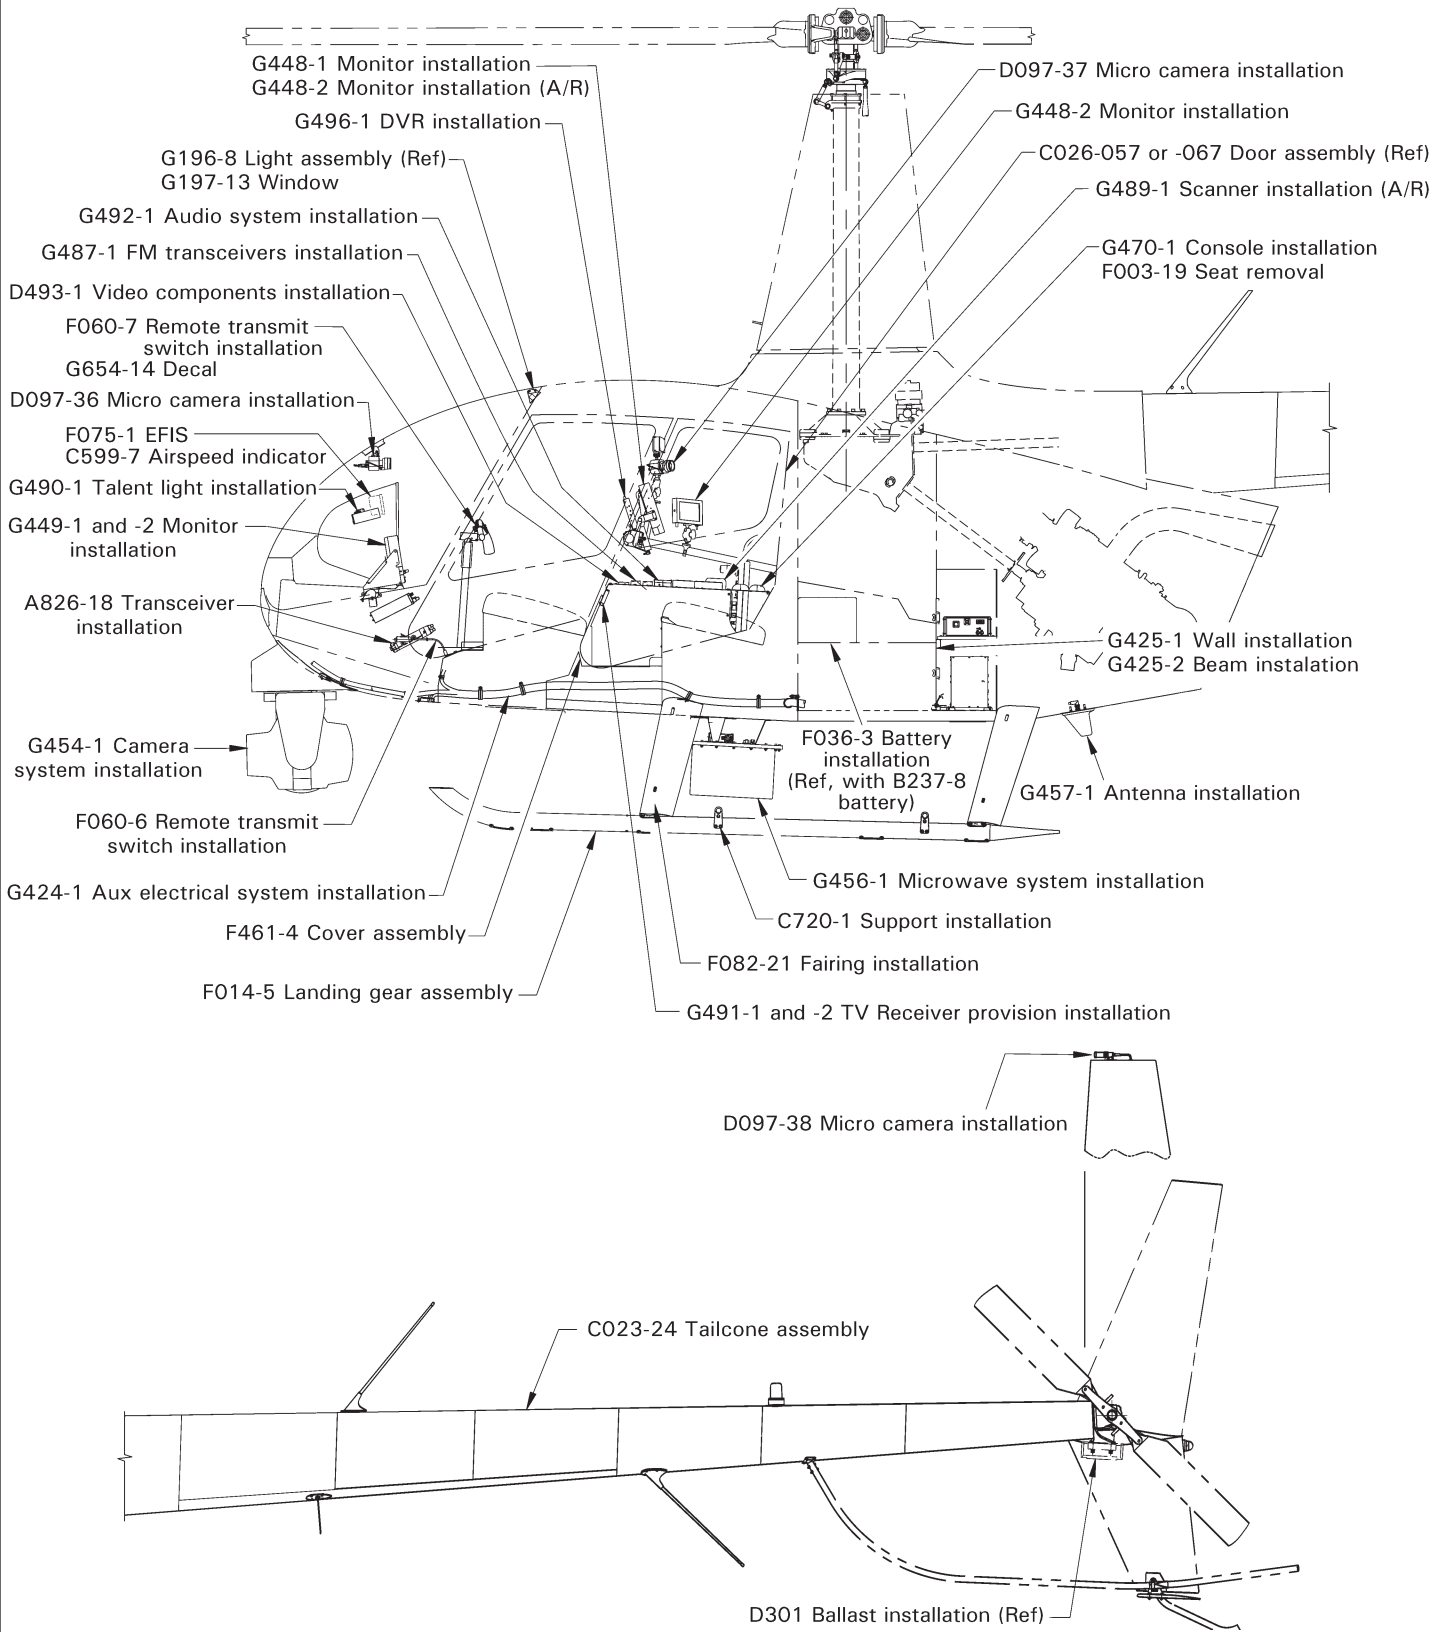

FIGURE 92-1 ENG VERSION
1. Refer to Figure 92-1. Turn battery & avionics switches off and pull out FM1 (10 amp) circuit breaker at panel.
1. Refer to Figure 92-1. Turn battery & avionics switches off. Open circuit breaker panel.
Refer to Figure 92-1. The C023-24 tailcone assembly has wiring provisions for the ENG version's D097-38 HD micro camera (tail).
Refer to Figure 92-1. C599-7 (120 knot  $V_{NE}$ , KM/H) airspeed indicator replaces C599-2 (140 knot  $V_{NE}$ , KM/H) airspeed indicator.
Refer to Figure 92-1. Remove hardware securing C719-1 support to C242 skid tube and remove support.
1. Refer to Figure 92-1. Turn battery & news equipment switches off, and pull out MICRO CAMS (2 amp) circuit breaker at panel.
1. Refer to Figure 92-1. Turn battery & news equipment switches off. Open news equipment circuit breaker panel.
2. Refer to Figure 92-1. Turn battery & news equipment switches off, and pull out MICRO CAMS (2 amp) circuit breaker at panel.
1. Refer to Figure 92-1. Turn battery & news equipment switches off. Open circuit breaker panel.